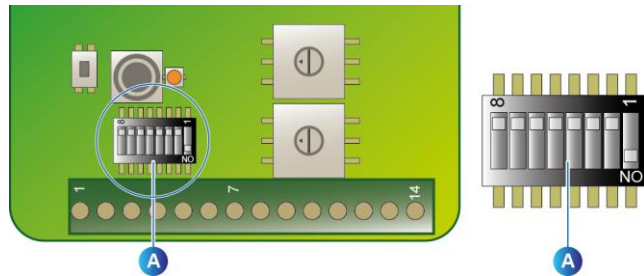

Figure 48: micro switch configuration on the OLCT 80.
- Position the microswitches as shown below (Figure 48, A) **on the wireless card of each *OLCT 80***: